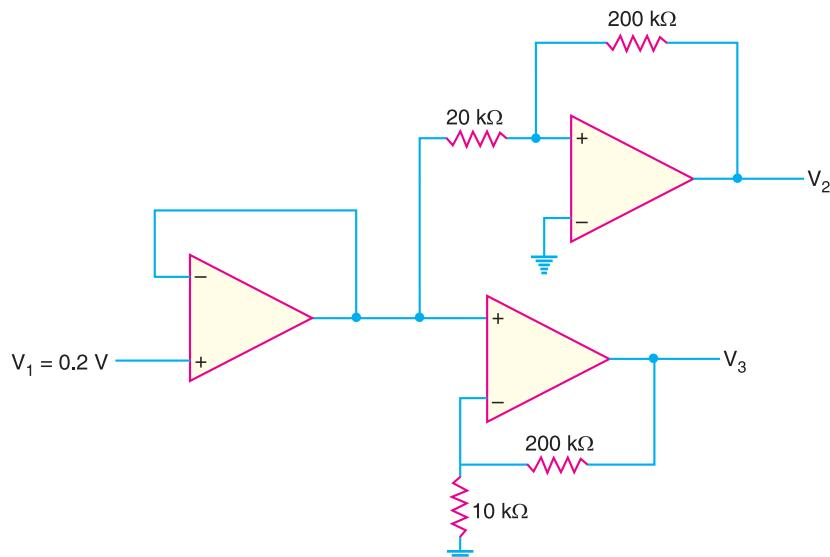

Fig. 25.108
15. Calculate the output voltages  $V_2$  and  $V_3$  in the circuit of Fig. 25.108.